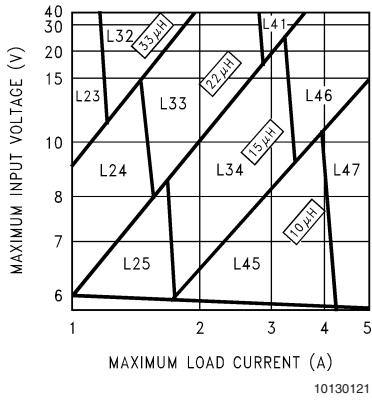
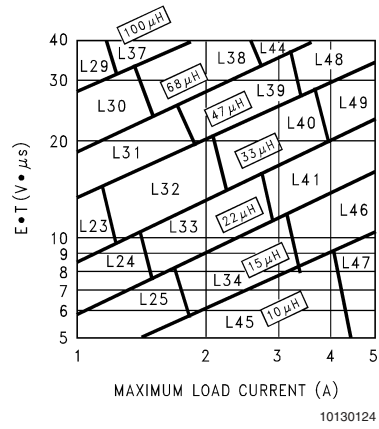

FIGURE 3. LM2677-3.3
FIGURE 6. LM2677-ADJ
**Step 3:** Determine the inductor required by using one of the four nomographs, *Figure 3* through *Figure 6*. Table 1 provides a specific manufacturer and part number for the inductor.
**Step 5:** Determine an input capacitor from Table 4 for fixed output voltage applications. Use Table 2 to find the specific capacitor type. For adjustable output circuits select a capacitor from Table 2 with a sufficient working voltage (WV) rating greater than  $V_{in\ max}$ , and an rms current rating greater than one-half the maximum load current (2 or more capacitors in parallel may be required).
**Step 3:** Use the nomograph for the 3.3V device, *Figure 3*. The intersection of the 16V horizontal line ( $V_{in\ max}$ ) and the 2.5A vertical line ( $I_{load\ max}$ ) indicates that L33, a 22 $\mu$ H inductor, is required.
**Step 3:** To use the nomograph for the adjustable device, *Figure 6*, requires a calculation of the inductor Volt $\cdot$ microsecond constant ( $E \cdot T$  expressed in  $V \cdot \mu s$ ) from the following formula:
Using *Figure 6*, the intersection of  $27V \cdot \mu s$  horizontally and the  $2A$  vertical line ( $I_{load}$  max) indicates that L38, a  $68\mu H$  inductor, should be used.
**Important Note:** When using the adjustable device in low voltage applications (less than  $3V$  output), if the nomograph, *Figure 6*, selects an inductance of  $22\mu H$  or less, Table 6 does not provide an output capacitor solution. With these conditions the number of output capacitors required for stable operation becomes impractical. It is recommended to use either a  $33\mu H$  or  $47\mu H$  inductor and the output capacitors from Table 6.